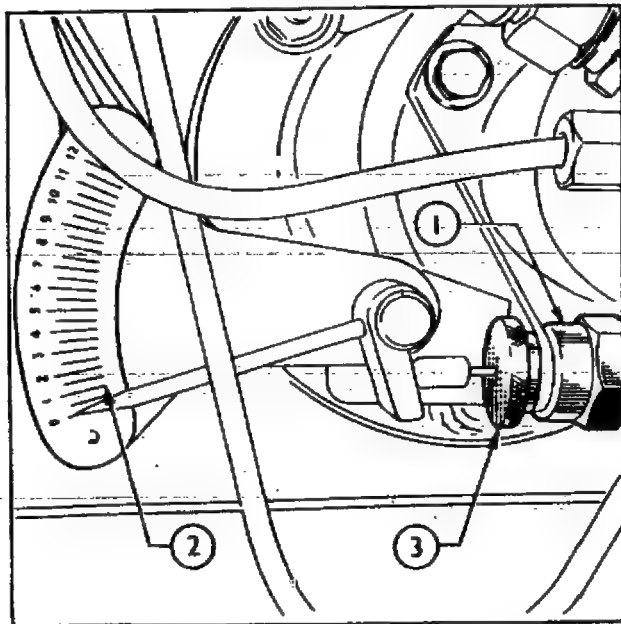

Fig. 90 1 Advance Spring Cap
3. From the base of the injection pump remove the stop pin located in one of the end plugs fitted to the advance and retard mechanism. In place of the stop pin fit an automatic advance gauge Tool No.CA.65 with adaptor Tool No.CA.65-1 (see Fig. 90).